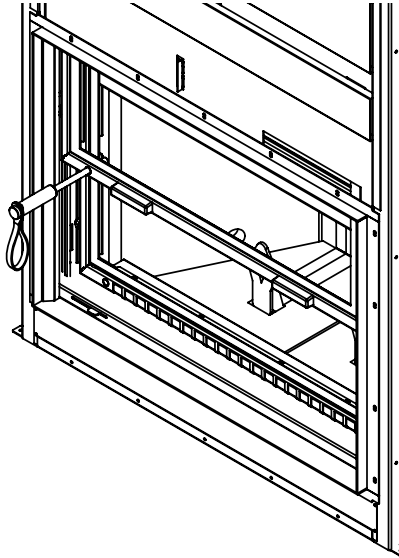

FIG.1
1. To install the rear baffle (Fig. 1), tilt and move the baffle up into the smoke chamber until the baffle clears the top support bracket at the back of the appliance.
4. Unscrew the top and bottom retainers inside the door frame. **(FIG.1)**
2. Lift the screen. From inside the appliance, lower the screen (**FIG.1**).